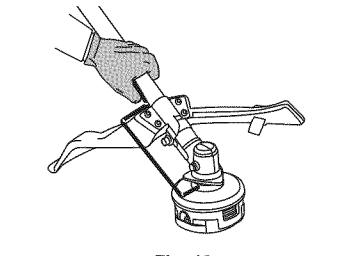

Fig. 19
- Hold the locking rod in place by grasping it next to the shaft housing of the unit (Fig. 19).